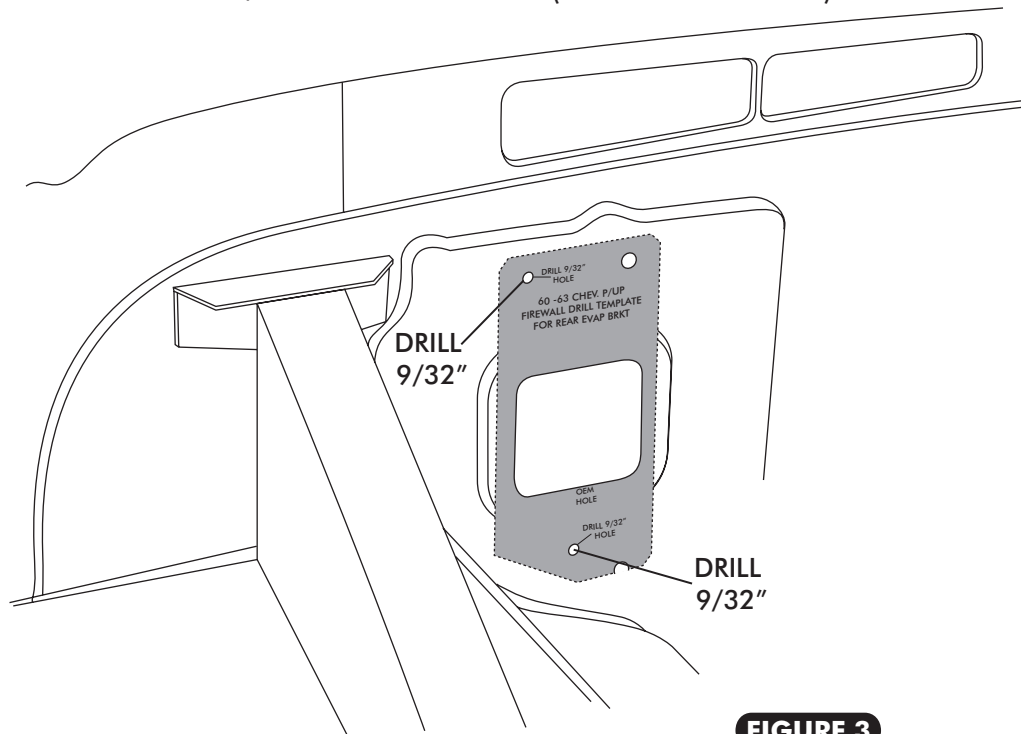

FIGURE 3
- USING TEMPLATE PROVIDED ON PAGE 23, ALIGN TEMPLATE ON ENGINE SIDE OF FIREWALL WITH OEM HOLES, AND MARK AND DRILL 9/32" HOLE IN FIREWALL (SEE FIGURE 3 BELOW).